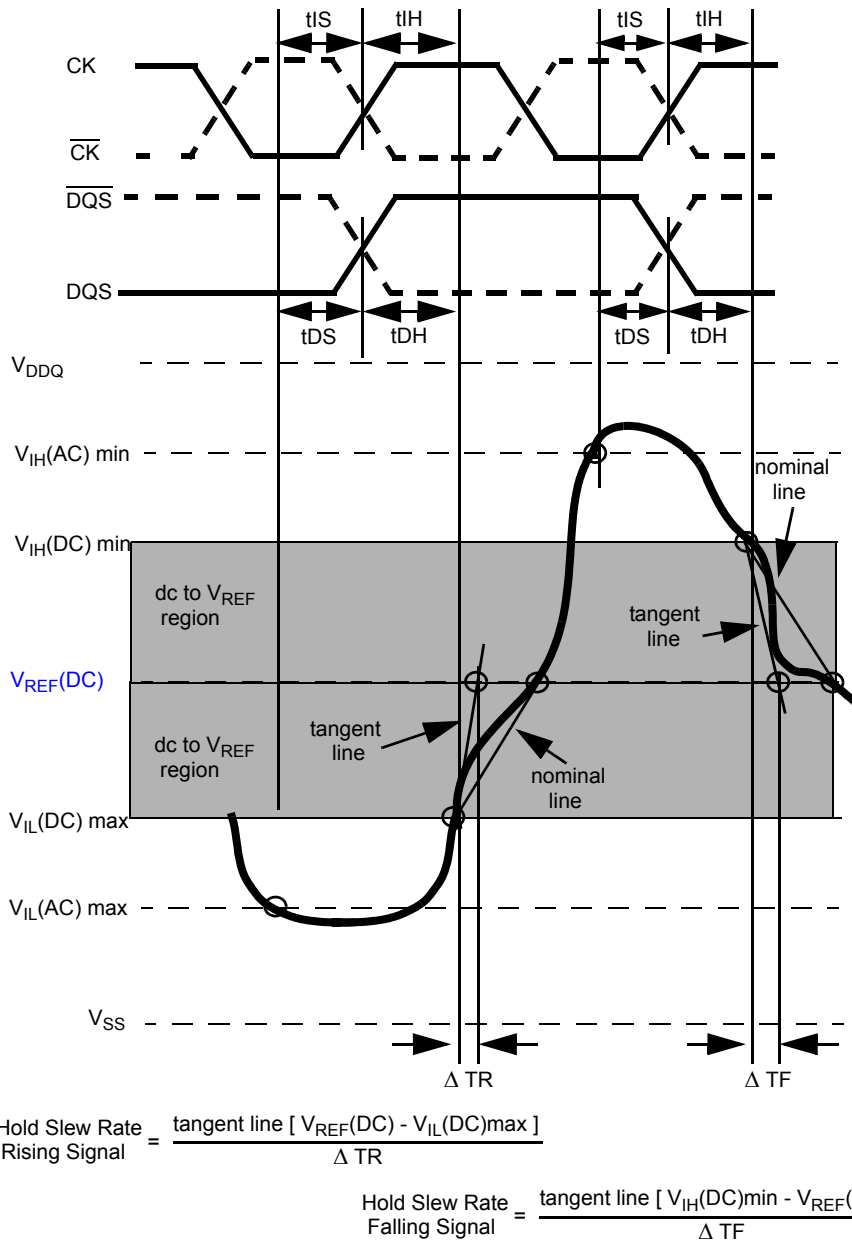

Figure 28. Illustration of tangent line for hold time **tDH** (for DQ with respect to strobe) and **tIH** (for ADD/CMD with respect to clock)
Hold (tDH) nominal slew rate for a rising signal is defined as the slew rate between the last crossing of VIL(DC)max and the first crossing of VREF(DC). Hold (tDH) nominal slew rate for a falling signal is defined as the slew rate between the last crossing of VIH(DC)min and the first crossing of VREF(DC) (see Figure ). If the actual signal is always later than the nominal slew rate line between shaded 'dc level to VREF(DC) region', use nominal slew rate for derating value. If the actual signal is earlier than the nominal slew rate line anywhere between shaded 'dc to VREF(DC) region', the slew rate of a tangent line to the actual signal from the dc level to VREF(DC) level is used for derating value (see Figure 28).